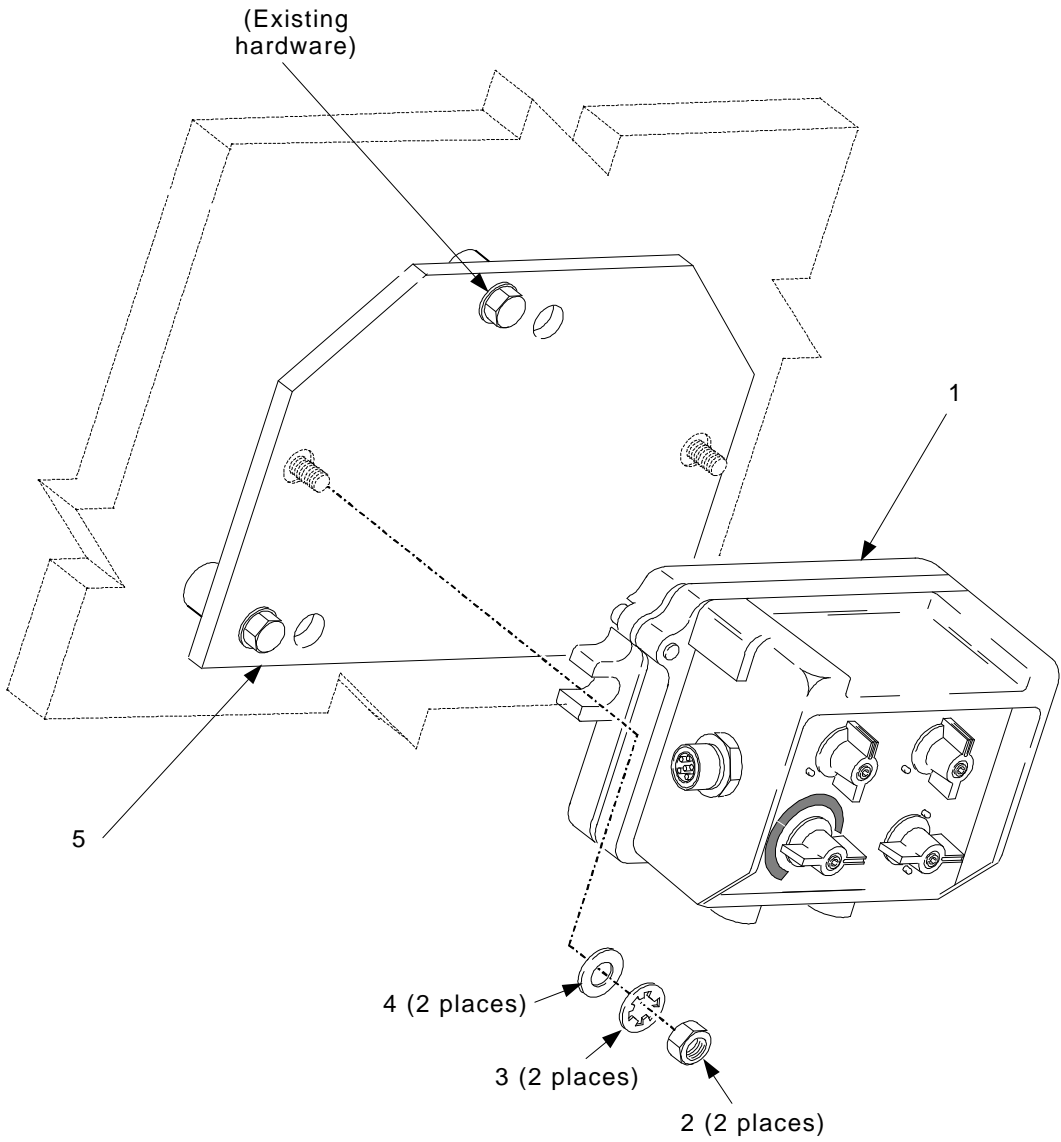

Figure 4-5. Gunner's FFCS Installation
Install and secure the Gunner's Mounting Plate (5) to the curbside wall as shown in Figure 4-5, using existing hardware and the following tools:
Install and secure Gunner's FFCS (1) on the Mounting Plate (5) in the sequence(s) shown in Figure 4-5 using the parts listed in Table 4-3 and the following tools: